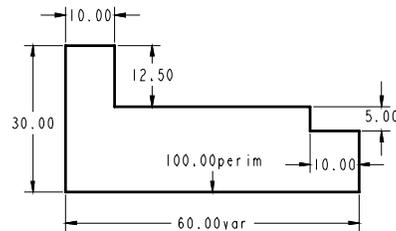

Figure 2-4 The Perimeter option
- Now, if you modify the perimeter value, the dimension selected to vary will be proportionately modified after regeneration, thus altering the geometry of the sketch. Remember that the dimension selected to vary cannot be modified using the **Modify** option in the **SKETCHER** menu. Figure 2-4 shows the perimeter modified to 100 and the consequent change in the variable dimension.